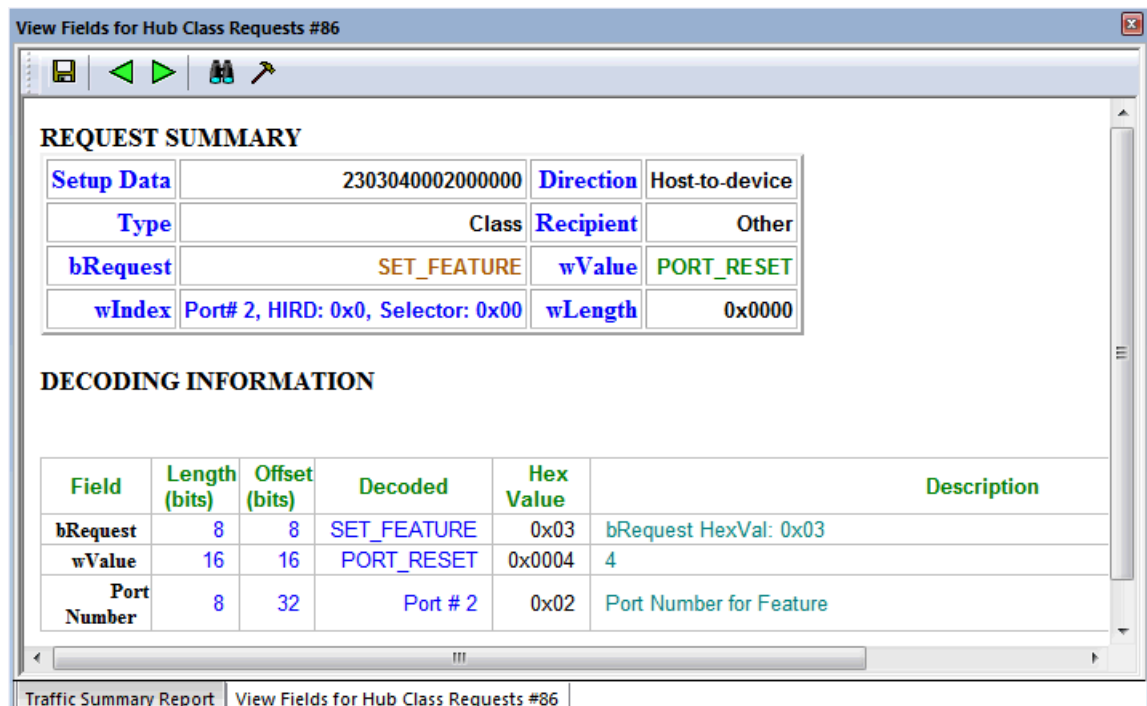

Figure 9.11: View Fields for Hub Class Requests Dialog
- From the USB Device Request menu, select **Decode ... Request** to display the View Fields for ... Class Requests text box (see Figure 9.11 on page 409).